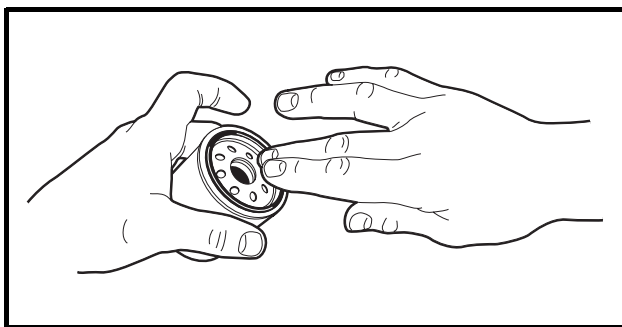

**Figure 37 Remove Engine Oil Filter**
9. Remove the engine oil filter, turning it counterclockwise, allowing the residual oil in the filter port and filter to drain into the oil drain pan (**Figure 37**). **See following NOTE.**